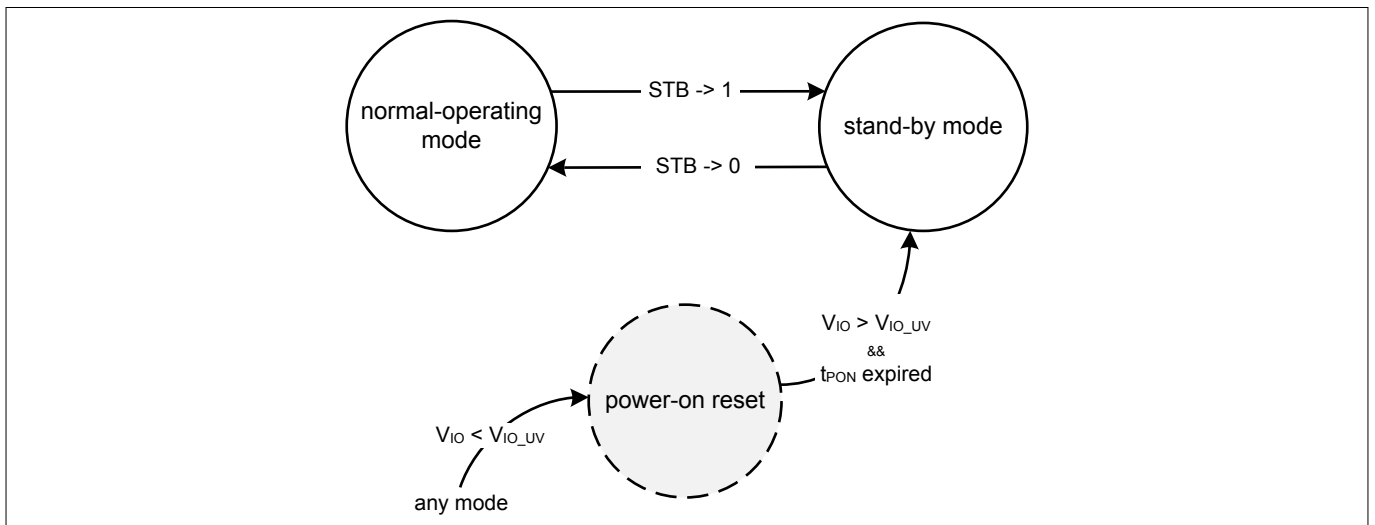

Figure 4 Mode state diagram
The TLE9254V supports two different modes of operation for each HS CAN channel (see **Figure 4**):
In normal-operating mode the TLE9254V sends and receives data from the HS CAN bus. All functions are active (see Figure 4):
- One channel of TLE9254V enters normal-operating mode after t_{Mode} , by setting the respective mode selection pin STB to "low" (see Figure 4).